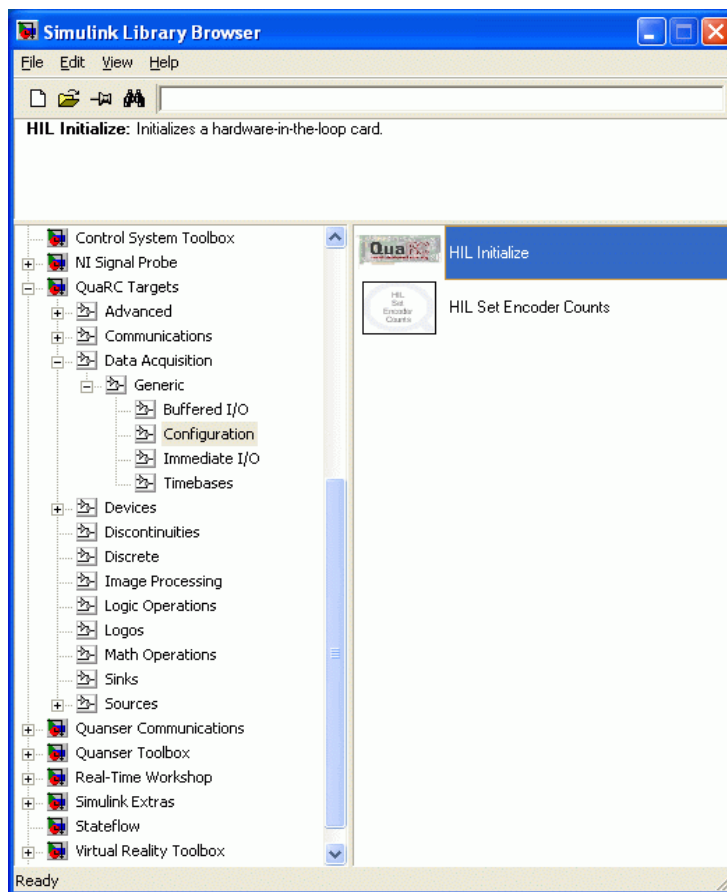

Figure 2: QuaRC Configuration folder in the Simulink Library Browser window.
4. As illustrated in Figure 2, expand the *QuaRC Targets* item and go to the *Data Acquisition \ Generic \ Configuration* folder.